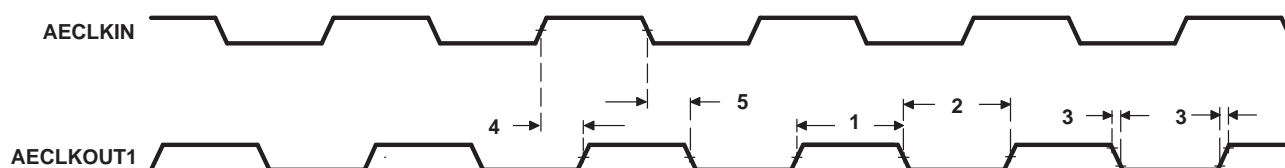

Figure 5-15. AECLKOUT1 Timing for the EMIFA Module
Table 5-19. Switching Characteristics Over Recommended Operating Conditions for AECLKOUT1 for the EMIFA Module^{(1) (2) (3)} (see Figure 5-15)